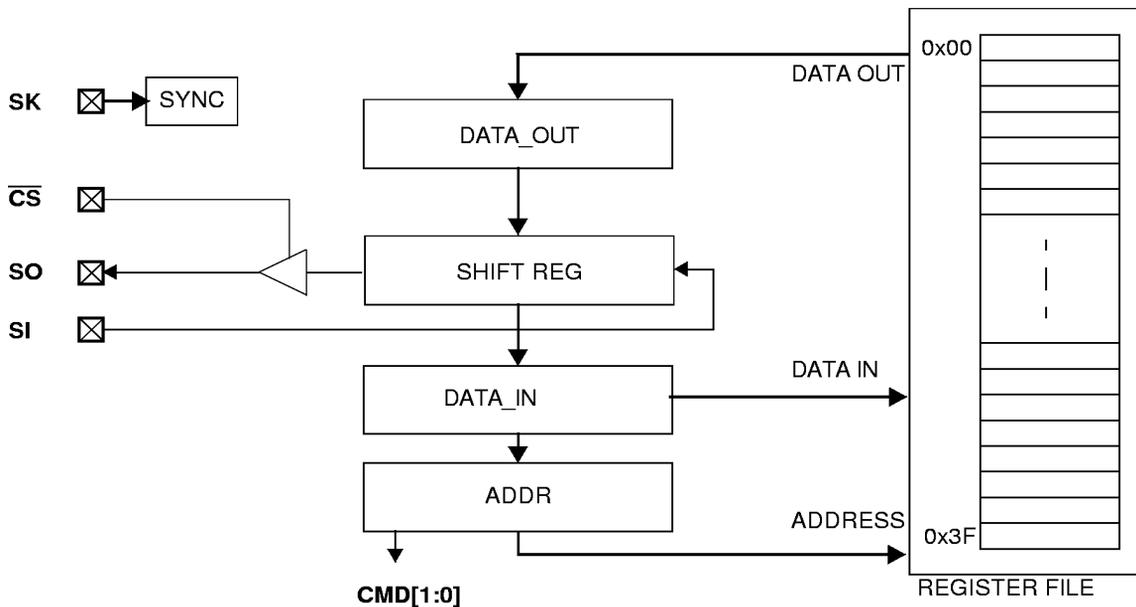

Figure 10. MICROWIRE Interface Block Diagram
The MICROWIRE/PLUS interface allows the USBN9602 IRE/PLUS mode uses pins called chip select (\overline{CS}), serial clock (SK), serial data in (SI), and serial data out (SO), as shown in Figure 10. This mode is selected by pulling the MODE1 pin high and the MODE0 pin low. The MICROW-